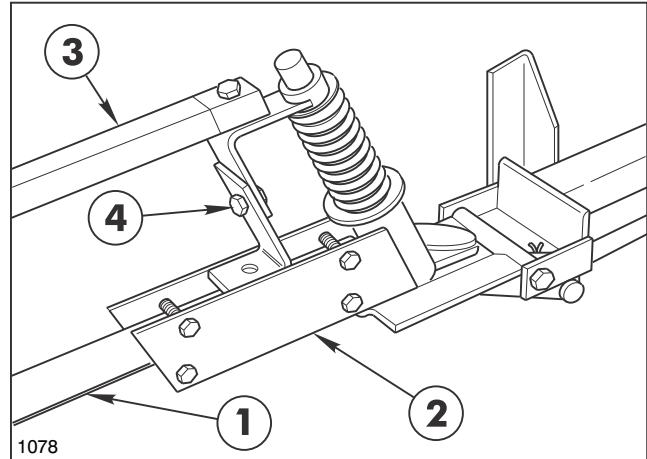

FIG. 12
12. Insert the plugged end of an Extension Boom Pipe into the Pivot Assembly and secure with four (4) 1/4" x 1-1/4" cap screws and lock nuts. Repeat on the opposite side to assemble the other Extension Boom. See FIG. 12.